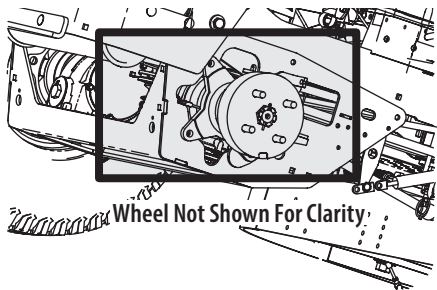
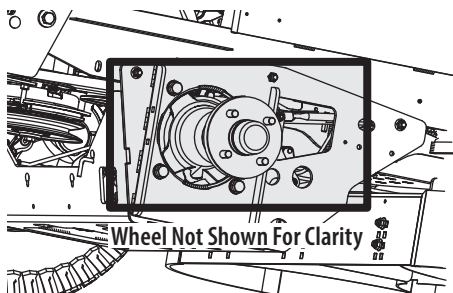

Figure 37
Figure 38
- Clean around and near the transmission, axle and the fan area (Figure 37 for Parker transmissions and Figure 38 for Hydro-Gear transmissions).